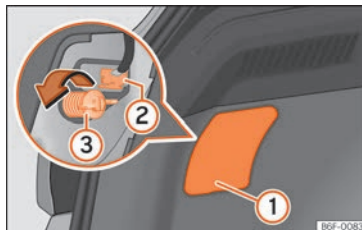
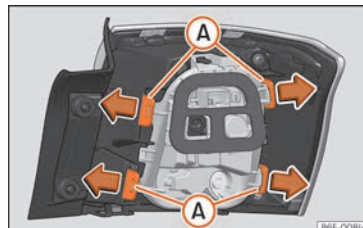

Fig. 57 Luggage compartment: access to the bolt securing the tail light unit.
Fig. 58 Retaining tabs on reverse side of tail light.
- Remove the lid, levering the flat side of a screwdriver into the recess »» Fig. 57 ①.
- Remove the bulb connector ②.
- Unscrew the light securing bolt ③ by hand or using a screwdriver.
- Remove the bulb holder unlocking the retaining tabs »» Fig. 58 A.